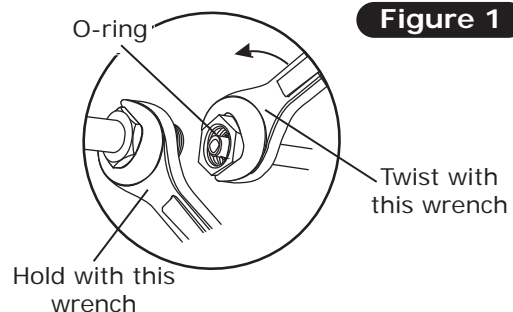

Figure 1
1. Lubricate (2) #6 O-rings as shown in Figure 1, Page 6. Install the #6 drier/condenser hardline as shown in Photos 1 and 2, below. Tighten fittings as shown in Figure 1, Page 6. **NOTE: Orient the #6 drier/condenser hardline as shown in Photo 2, below. Reversing the hardline orientation will push the drier into the wrong position. Tighten the 1/4-20 nut with star washer securing the drier to the drier bracket at this time.**
2. Install binary switch onto the drier as shown in Photo 2, below. **NOTE: The binary switch and the drier each come with an O-ring. Only one of the (2) O-rings will be used.**